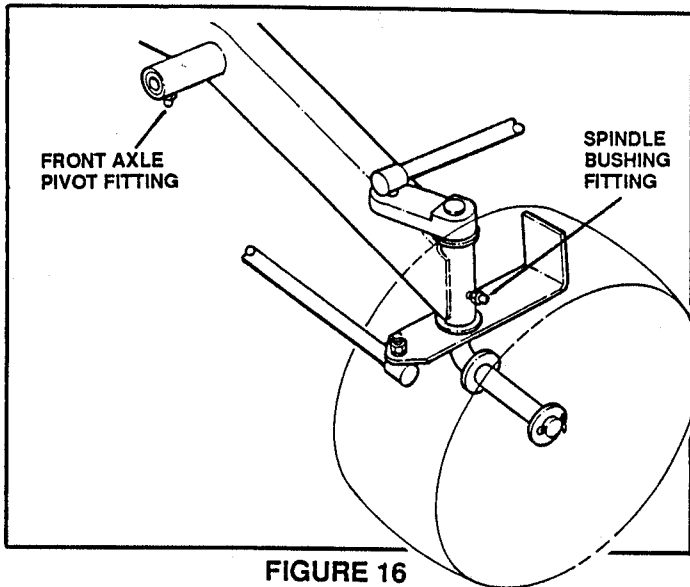

FIGURE 16
- **FRONT AXLE PIVOT & SPINDLE BUSHINGS:** Lubricate the center pivot fitting on underside of the front axle and each spindle fitting located on front axle. See Figure 16.